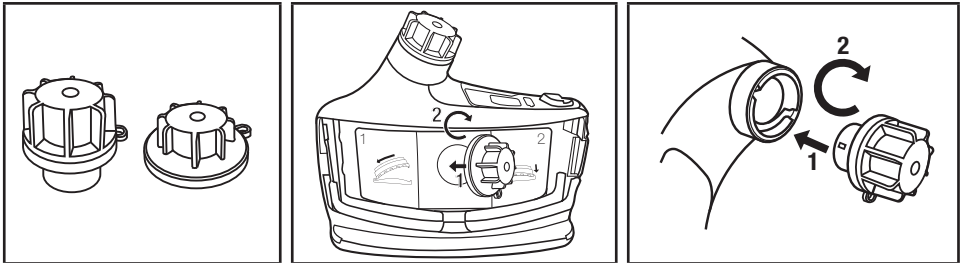

Fig. 18 – Attaching motor/blower cleaning and storage covers
- If additional cleaning is required, remove the filter/cartridge and breathing tube. To minimize material falling onto the motor/blower, remove the filter/cartridge while it is facing downward. Attach the air inlet and air outlet cleaning and storage plugs (3M™ Cleaning and Storage Kit TR-653) into the TR-600 (see Fig. 18). **The TR-600 can now be rinsed under running water, immersed, or put in a respirator washer for further cleaning.** Water temperature should not exceed 122°F (50°C). The plug gaskets should be inspected for damage and wear prior to each use. Worn or damaged gaskets must be replaced. Washing the Versaflo TR-600 while using damaged plug gaskets may cause damage to the Versaflo TR-600 and void the warranty. Blowers which have been dropped or damaged should not be immersed or put into a respirator washer due to potential water ingress. Gaskets should be replaced every 30 uses or yearly, whichever comes first, to minimize use of worn gaskets.